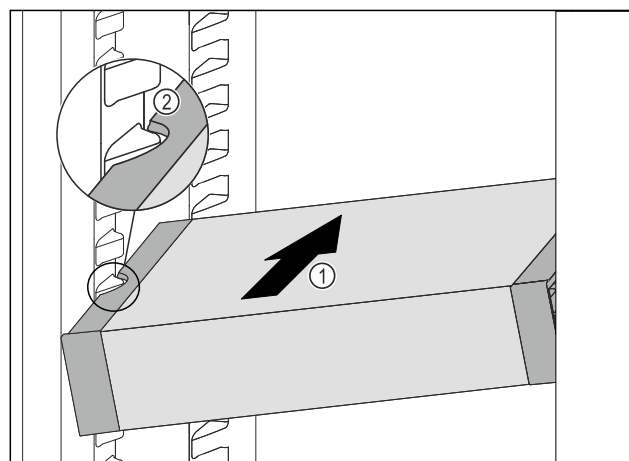

Fig. 125
- Insert the VarioSafe into the fridge section at an angle Fig. 125 (1) until the recesses in the side Fig. 125 (2) of the VarioSafe are at the level of the support rib in the fridge section.